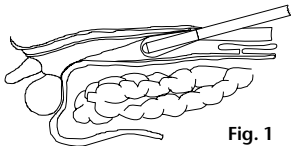

Fig. 1
- If necessary, put sterile lubricant onto the distal end and introduce it between the tissue layers to be separated using an open method. While introducing the balloon system and during the surgical intervention, make sure that the balloon is not damaged by other instruments. (Fig. 1)